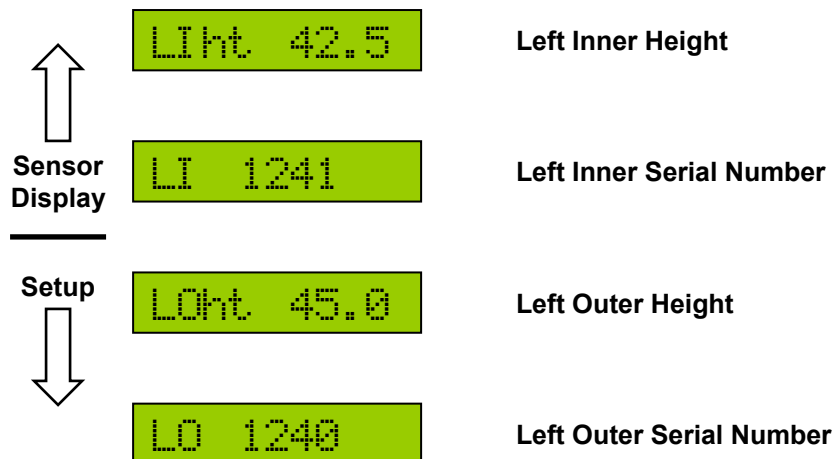

Figure 7: Sensor Setup Menu (for Left Channel)
- Navigate to the sensor location you would like to change, for example, "LO" for the left outer sensor. This screen will show the previously installed sensor serial number (if any) as shown in **Figure 7**.
- Press and hold the "SETUP (NO)" or "SENSOR DISPLAY" switch for two seconds to return to the run screen.
- Navigate to the location you measured, for example, "LOht" for the left outer sensor (**Figure 7**).
- To return to the Normal Operating Screen, press and hold the "SETUP (NO)" or "SENSOR DISPLAY" switch for two seconds.